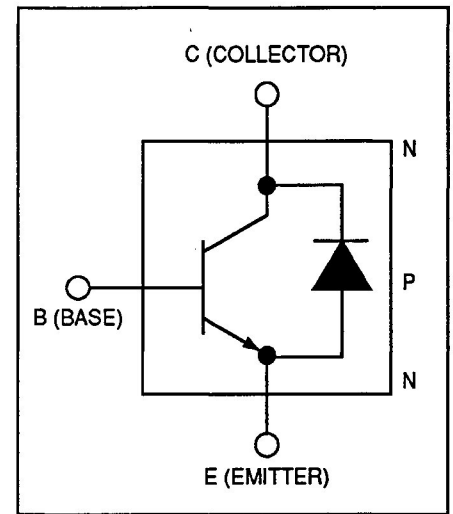

Figure 7-7. Transistor Terminals.
4. Connect the positive lead determined in Step 2 to the (+) terminal indicated in Table 7-2. Connect the negative lead to the (-) terminal indicated in Table 7-2. Refer to Figure 7-7 for transistor terminal details. The transistors should all read very high resistance. Replace any that read low resistance.
- Set a volt-ohmmeter on the  $\times 1$  ohmmeter scale and measure the resistance by referring to the labels B, E, and C on the transistor block. Volt-ohmmeter current must be less than 150 mA. See Figures 7-7 and 7-8 and refer to Table 7-3.